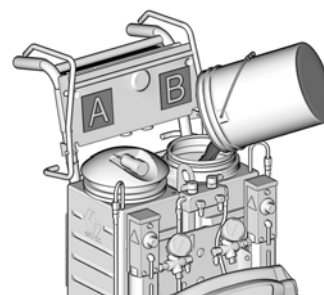

FIG. 8 Fill Tank B with Resin
5. Remove tank B cover and pour resin into tank B (blue side). See FIG. 8.